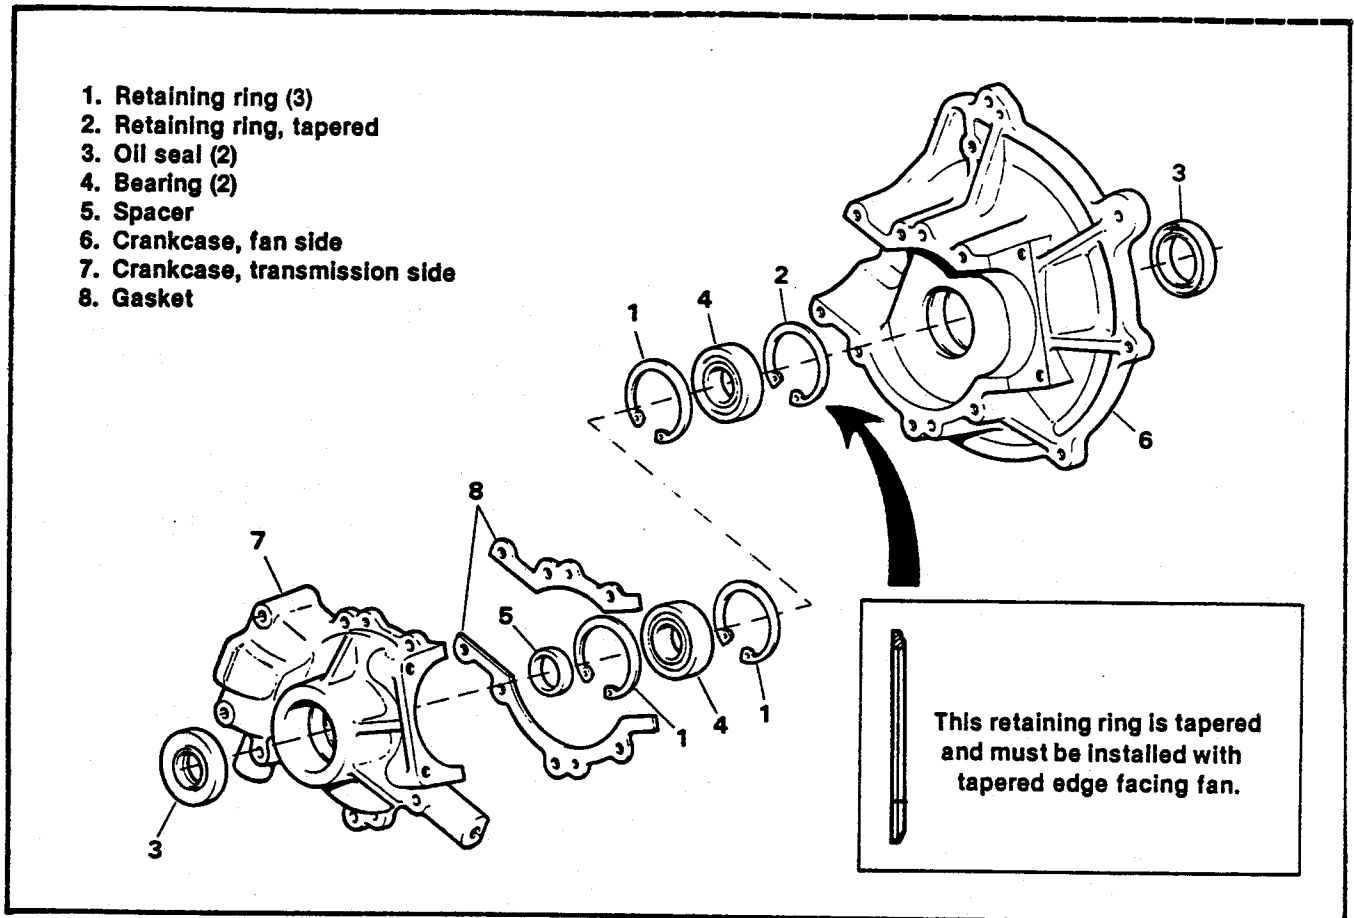

Figure 5-18. Crankcase Oil Seals and Retaining Rings — Exploded View
9. See Figure 5-18. Pull out the oil seals (3).
Retaining ring (2, Figure 5-18) is tapered and must be installed with tapered edge facing fan.
ASSEMBLY CRANKCASE (Figure 5-18)
- See Figure 5-18. Install the external retaining ring (1) and tapered retaining ring (2) to crankcase halves. Install new oil seals (3).